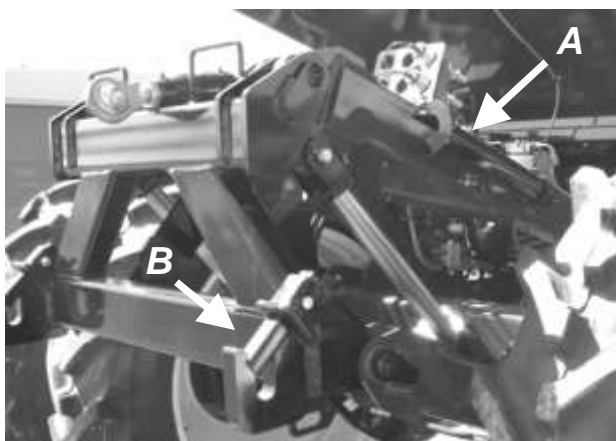
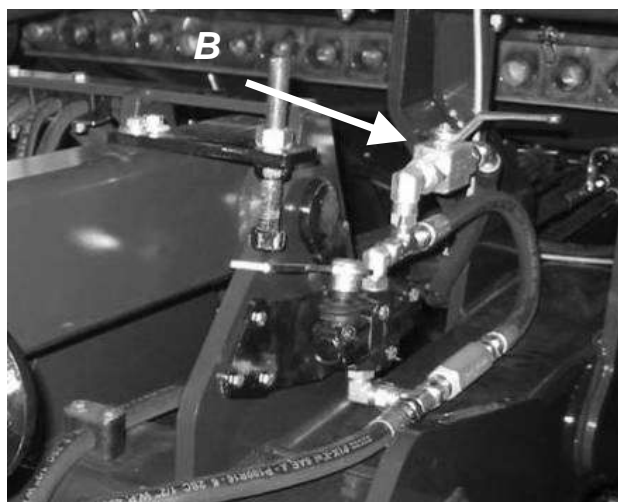

Figure 9
Figure 10
18. On the back hitch, remove the cylinder security lock [figure 9, **A**] and open the hydraulic valves [figure 10, **B**]. Install the security lock on supports located on side of the parallel.
In the case of an application ramp, it can remain mounted, but the security stoppers must be installed [Figure 9, **A**] and the hydraulic valve must be closed [Figure 10, **B**].
2. Make sure that the planter is centered with the applicator. To center the planter, use the $\frac{1}{2}$ " and $\frac{1}{4}$ " or $\frac{3}{4}$ " bushing on the lifting pins of the three points hitch [figure 9, **B**]. Theses bushing are located in the tool box of the applicator.